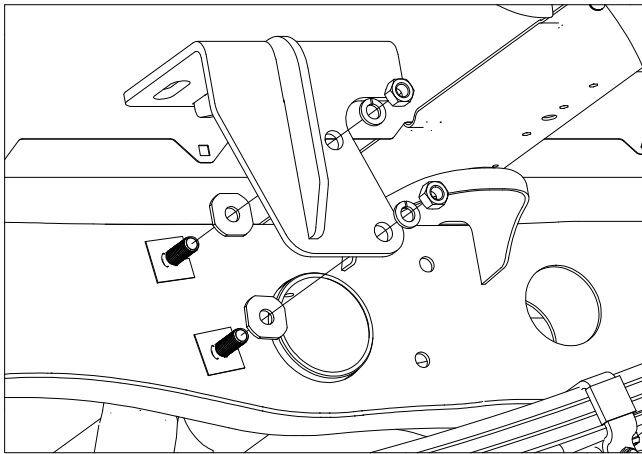

Figure B7: View looking into driver side wheel well.
6. **Install the rear side plates.** Locate the two rear side plates, four 1/2" lock washers, four 1/2" finish nuts, and four frame spacers. If your truck does not have overload brackets, install frame spacers on each carriage bolt. If overload brackets are present, install the side plates over the brackets and discard the frame spacers. Pass the top flange of the rear side plates over the frame and then pass the holes in the side plates over the carriage bolts. Secure the side plates with a 1/2" lock washer and nut, see Figure B7. Hand tighten hardware only at this time.